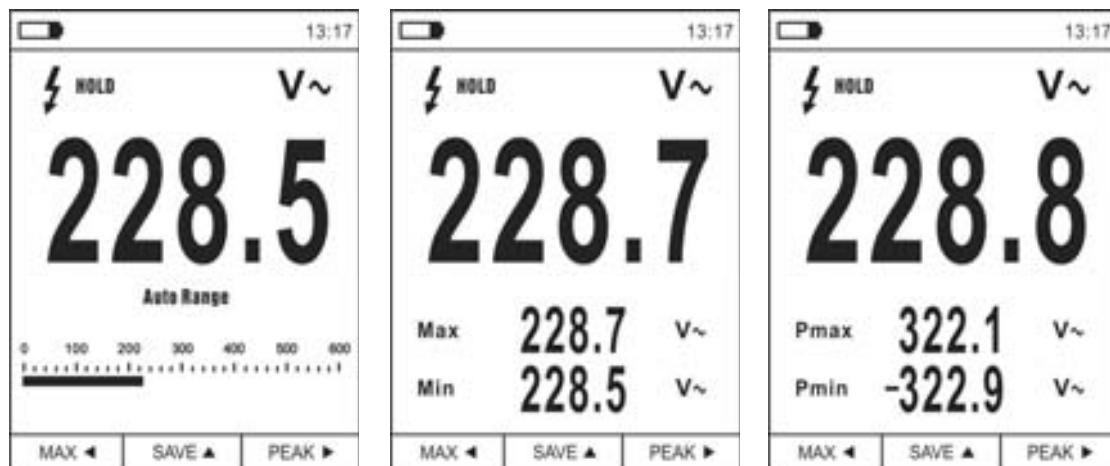

Fig. 9: MIN/MAX and PEAK measurement
1. Press key **MAX** ◀ to enter measurement of MAX and MIN values of the quantity to be measured (see Fig. 9 - central part). The symbols "MAX" and "MIN" appear on the display.
6. Press key **PEAK** ▶ to enter measurement of Peak values of the quantity to be measured (see Fig. 9 – right side). Symbols "Pmax" and "Pmin" appear on the display and values are updated in the same way as for the MAX/MIN function.